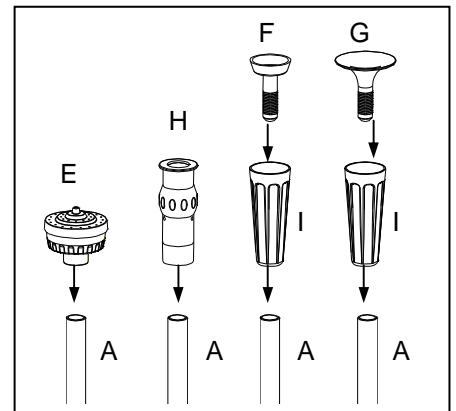

Fig. 4
4. Choose a fountain head for the desired water effect, and assemble your choice as shown in Fig. 4